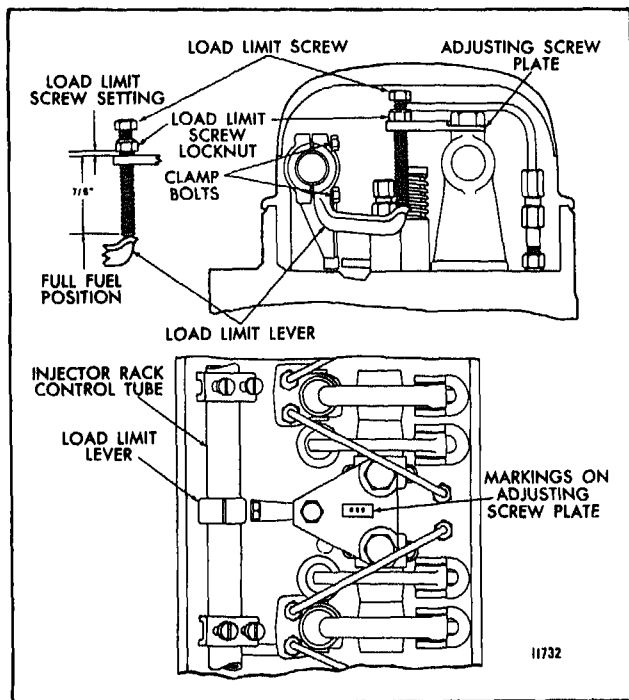

Fig. 1 - Engine Load Limit Device
Engines with mechanical governors may be equipped with a load limit device (Fig. 1) to reduce the maximum horsepower.
After the engine tune-up is completed, make sure the load limit device is properly installed as shown in Fig. 1. Make sure the counterbores in the adjusting screw plate are up. The rocker arm shaft bracket bolts which fasten the adjusting screw plate to the brackets are tightened to 50-55 lb-ft (68-75 Nm) torque. Then adjust the load limit device, on each cylinder head, as follows:
3. With the screw out of the plate, adjust the load limit screw lock nut so the bottom of the lock nut is $7/8$ " from the bottom of the load limit screw (Fig. 1) for the initial setting.